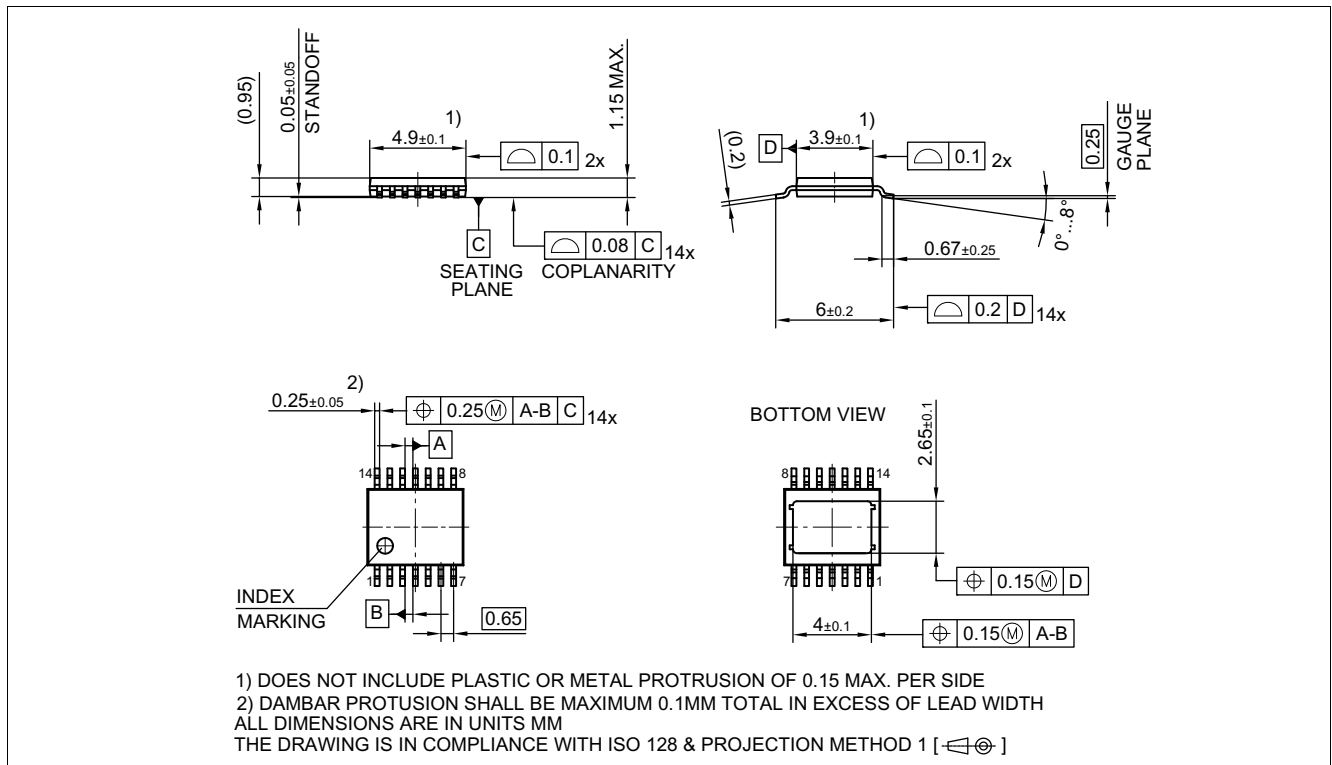
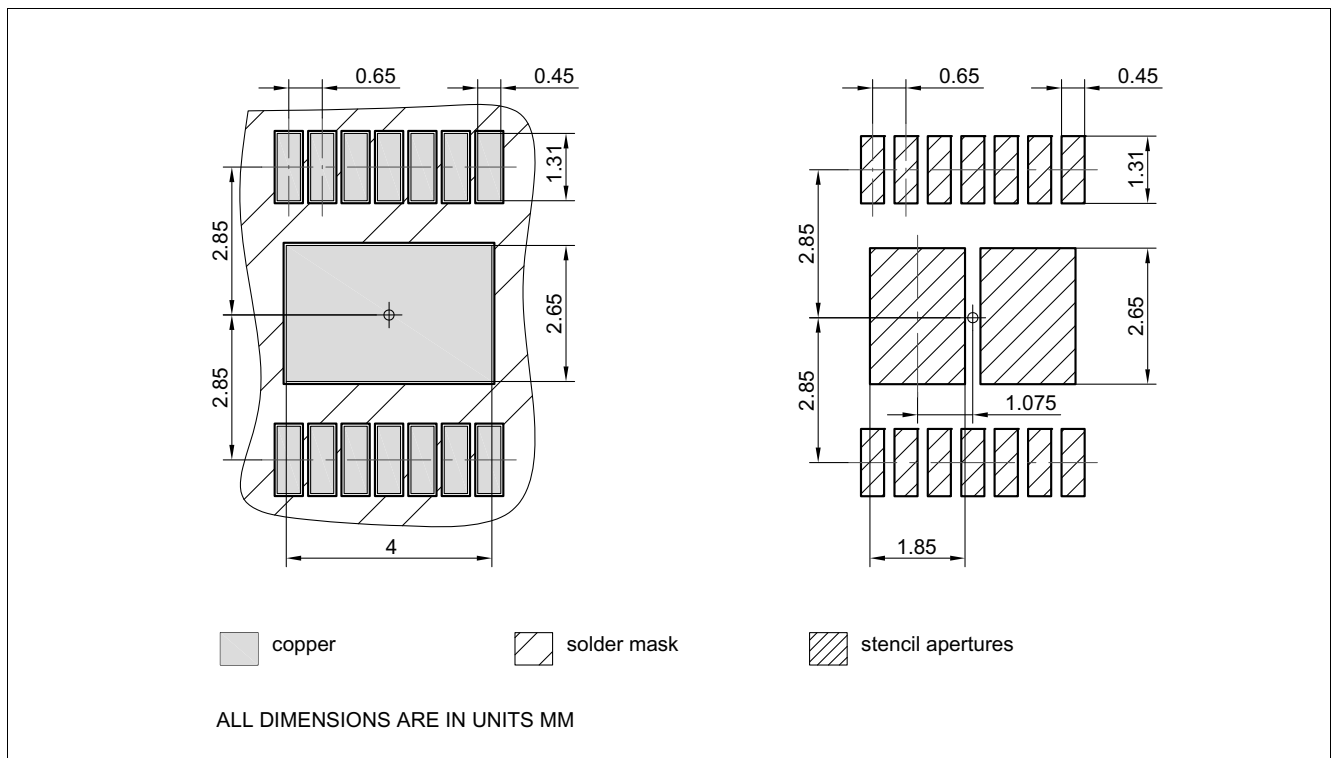

Figure 44 PG-TSDSO-14 (Thin (Slim) Dual Small Outline 14 pins) Package Outline
Figure 45 PG-TSDSO-14 (Thin (Slim) Dual Small Outline 14 pins) Package pads and stencil
1.03, 2018-10-18	<p>Chapter 9.3.1 updated (typo) Page 1: updated (Package PG-TSDSO-14-22 → Package PG-TSDSO-14) Figure 29 updated Figure 44 updated (PG-TSDSO-14-22 (Thin (Slim) Dual Small Outline 14 pins) Package Outline → PG-TSDSO-14 (Thin (Slim) Dual Small Outline 14 pins) Package Outline) Figure 45 updated (PG-TSDSO-14-22 (Thin (Slim) Dual Small Outline 14 pins) Package pads and stencil → PG-TSDSO-14 (Thin (Slim) Dual Small Outline 14 pins) Package pads and stencil) Table 1 updated ((Symbol: $I_{VS(SLEEP)}$ → $I_{VS(SLEEP)_{85}}$), (Parameter: Minimum Overvoltage protection ($T_J = 25\text{ °C}$) → Minimum Overvoltage protection ($T_J \geq 25\text{ °C}$)) P_9.6.0.6 updated (Note or Test Condition: removed unnecessary line-break) Chapter 7.4.1 updated chapter title (PROFET → PROFET™) Table 12 updated table title (PROFET → PROFET™) Chapter 8.6.1 updated chapter title (PROFET → PROFET™) Table 16 updated table title (PROFET → PROFET™) Chapter 9.5.1 updated chapter title (PROFET → PROFET™) Table 21 updated table title (PROFET → PROFET™) P_4.1.0.21, P_4.1.0.22, P_4.1.0.23, P_4.1.0.24 updated (footnote ESD standards) Table 1 updated ($R_{DS(ON)}$ → $R_{DS(ON)_{150}}$), ($V_{DS(CLAMP)}$ → $V_{DS(CLAMP)_{25}}$) Chapter 8.5.2 updated phrasing P_7.5.2.14 Table subheading "Switching Energy" added P_7.5.2.15 Table subheading "Switching Energy" added Chapter 6.4 added conditions Chapter 7.5 added conditions P_7.5.2.14 updated (Test condition: add "See Figure") P_7.5.2.15 updated (Test condition: add "See Figure") Chapter 8.7 added conditions Chapter 9.6 added conditions P_9.7.2.27 updated (Test condition: add "See Figure") P_9.7.2.29 updated (Test condition: add "See Figure") Chapter 7.3.1 typo corrected (link to Figure 19 added)</p>